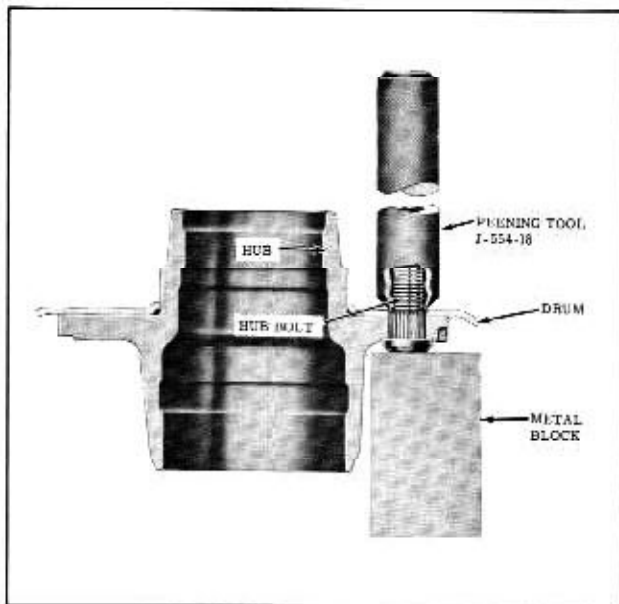

Fig. 5-6 Peening Hub Bolt
4. While supporting hub bolt,peen hub bolt into the countersunk area of drum with the use of Peening Tool J-554-18 until the drum is secure to the hub. (Fig. 5-6)